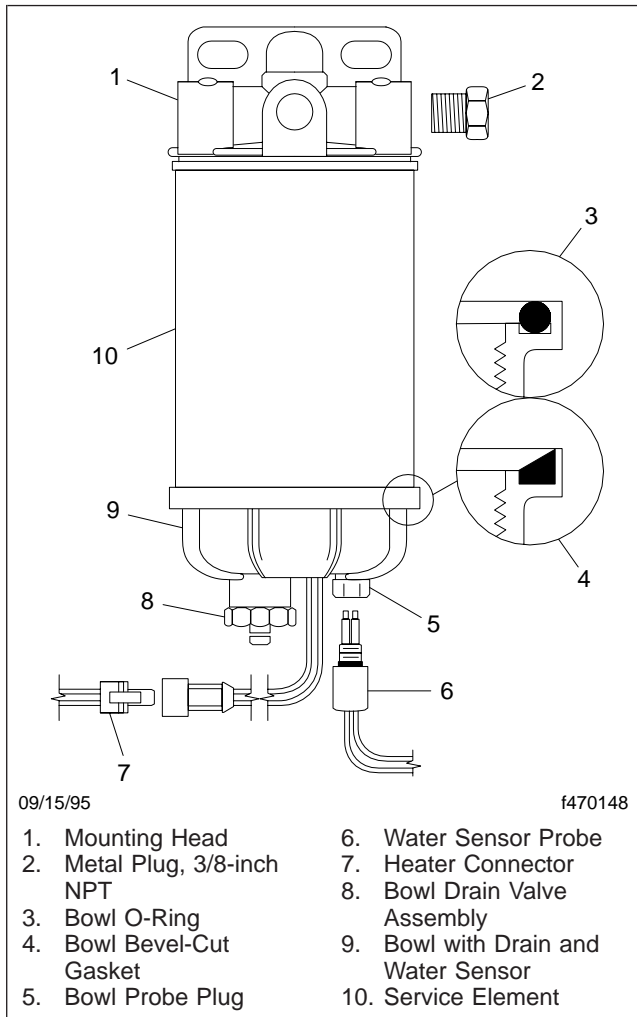

Fig. 5, Racor 690R Fuel/Water Separator (6120R similar)
1. Drain some fuel by loosening the vent plug and opening the drain valve. See **Fig. 5**.
- 8.1 Remove the 3/8-inch metal plug located at the top of the fuel/water separator (see **Fig. 5**, Ref. 2), and manually fill the unit with diesel fuel.